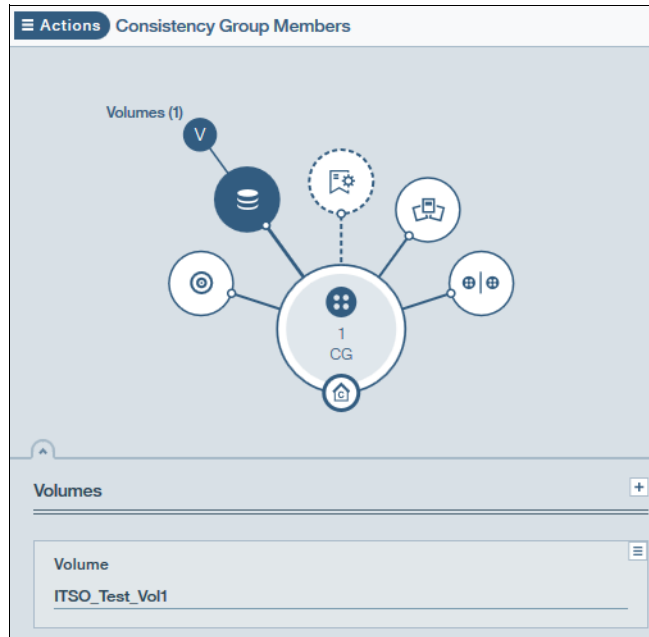

Figure 4-35 Consistency group reference to the mirrored volumes
3. Select the CG in the **Consistency Groups** view and select **Volumes** in the Hub view, as shown in Figure 4-35.
4. When the **V** icon is selected, from Figure 4-35, the mirrored volumes of the mirrored consistency group are listed, as shown in Figure 4-36.